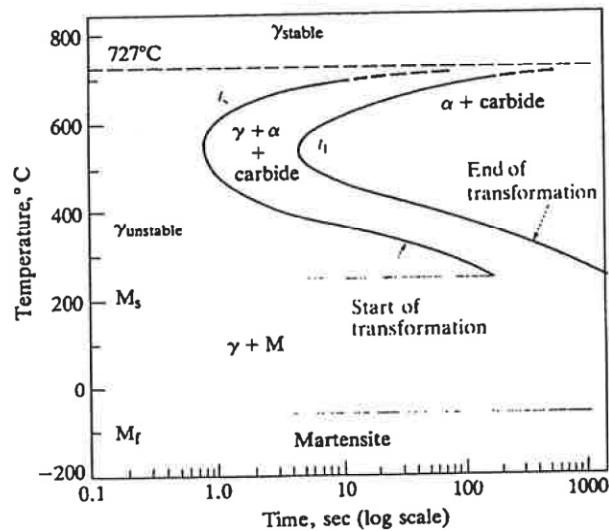

Fig 3 Isothermal diagram for a 0.8% carbon steel
- (b) Fig 3 shows the isothermal transformation curve for a eutectoid (0.8%) carbon steel. Thin sections of the steel are heated to 800°C for 1 hour, then heat treated as follows: